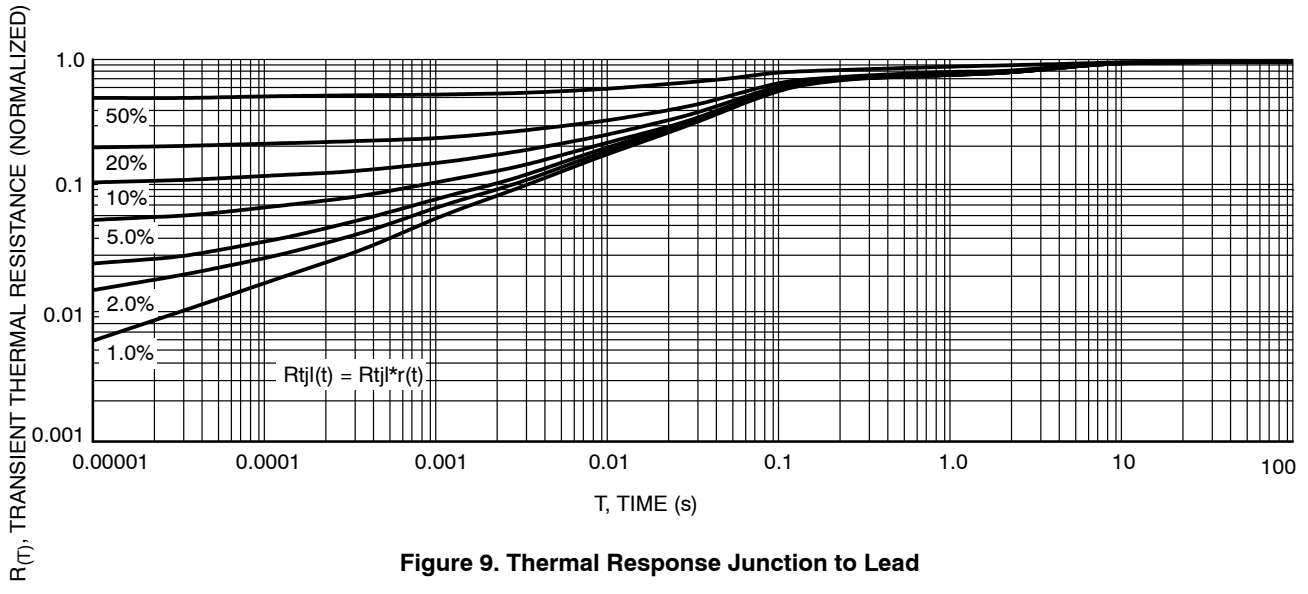

Figure 9. Thermal Response Junction to Lead
1. Mounted with minimum recommended pad size, PC Board FR4, See Figures 9 and 10.